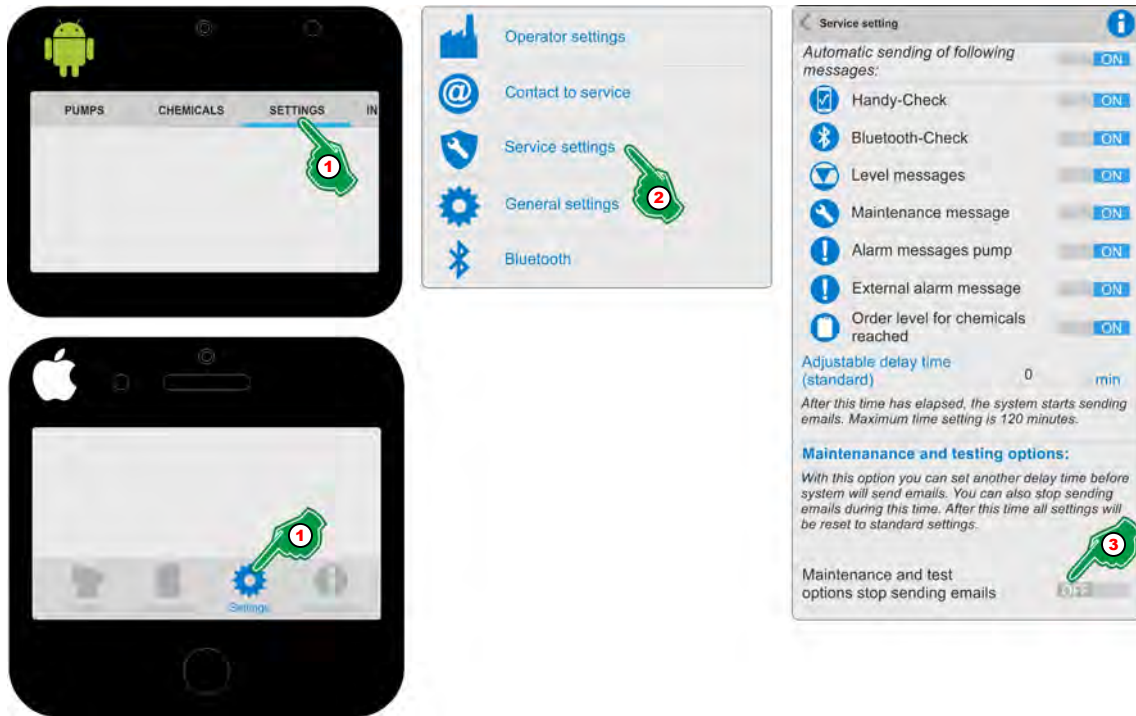

Fig. 14: ‘Adjustable delay time’
1. Select [Settings] (Fig. 14, Pos. 1).
2. Select [Service Settings] (Fig. 14, Pos. 2).
3. ‘Maintenance and testing options’ (Fig. 14, Pos. 3) **ON**.